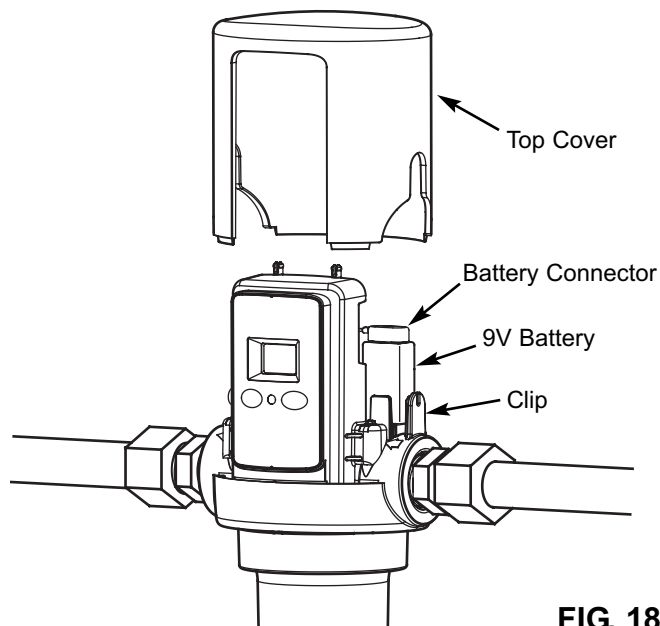

FIG. 18
2. Remove the top cover from the ASF by sliding it upward (See Figure 18).
4. Place the connected battery into the clip provided for it directly above the IN port (See Figure 18).
1. Remove the top cover from the ASF by sliding it upward (See Figure 18 on Page 11).
4. Place the connected battery into the clip provided for it directly above the IN port (See Figure 18 on Page 11).